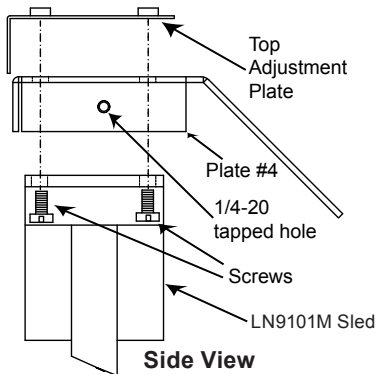
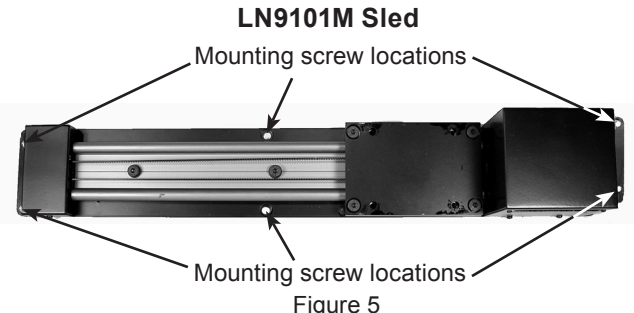

Figure 4C
Figure 5
2. Orient the LN9101M Sled, Plate 4 and the Top Adjustment Plate as illustrated in figure 4C. Secure it using six 1/4-28x1/2 machine screws and tighten them with the supplied Hex Wrench. Refer to figures 5 and 6.